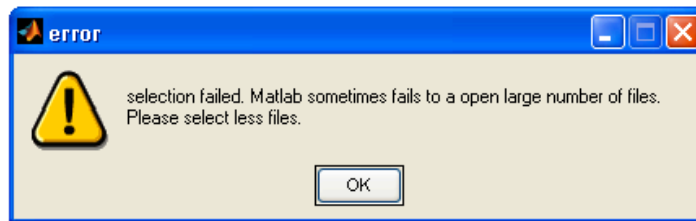

Figure 2.4
b. Due to an internal bug in Matlab command 'uigetfile', it sometimes fails to open large number of files. An error dialog (Fig. 2.4) will show in this case. So don't try to load all the original velocity files and convert them at the same time. Just convert a portion of them and enter the correct starting frame number for every conversion. Make sure the frame numbers are continuous integers. To load and convert more files at one time, make the name for the original files as short as possible, e.g., V01.txt, V02.txt.....